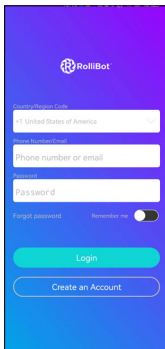

Fig. 1
**Step 2.** Register for an account. Then sign in with your Rollicool account details on the app (fig. 1) to log in. If you already have a Rollibot account, simply log in.